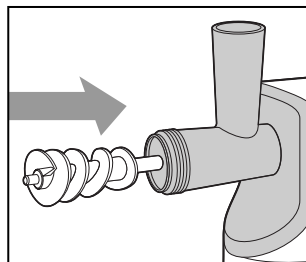

Fig. 2
2. Insert the feeding screw with the long end into the mincer head & turn slightly until it is securely coupled with the motor shaft (as shown in Fig. 2).